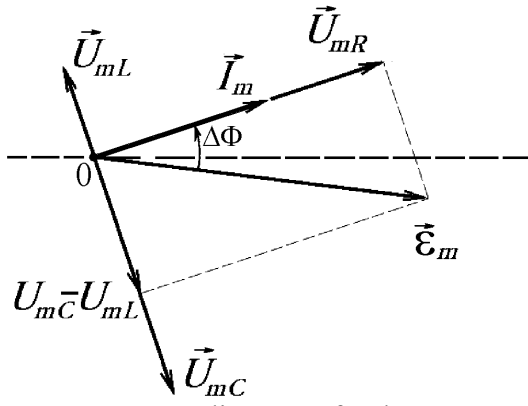

Figure 6 – Vector diagram of voltages on RLC-circuit's elements at low frequency $\Omega < \omega_0$ (current has a phase lead relative to an external EMF).
As seen in (59) the external EMF is equal to the sum of three harmonic oscillations with same frequency but different initial phases. In order to sum these oscillations let's use **vector diagram method**. In this method each oscillation is being graphically represented as a vector that revolved around some axis with angular velocity equal to the driving cyclic frequency Ω . Length of each vector equals to amplitude of the individual oscillation. The angles between these vectors equal to phase difference that individual oscillations have with respect to each other. Vector representation of (59) shown on a Fig.6.
here $X_C - X_L$ is the **reactance** of the circuit, R – resistance. Phase lead of current relative to an EMF (see Fig.6):
$$I_m = \frac{\varepsilon_m}{\sqrt{R^2 + X_C^2}} \quad \text{and} \quad \Delta\Phi = \arctg \frac{X_C}{R} > 0 \quad (\text{see Fig.6 and 7}).$$